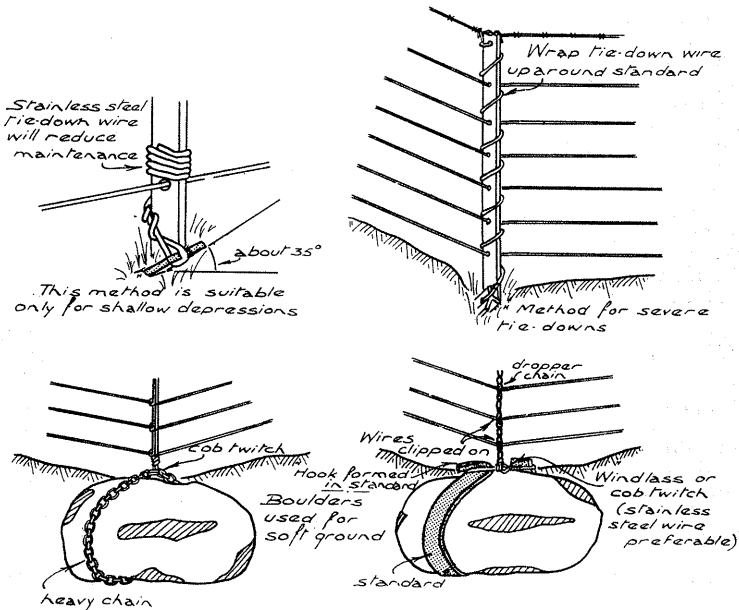

Fig.3 TIE - DOWNS
**Tie-downs.** (See Fig. 3.) If the strainer posts are saved, a fence stands or falls on the quality of its tie-downs. Money saved here can be money wasted. Thought must be given to the extra strain placed
The tie-down standard should be driven well home and tied to the fence standard with stainless-steel wire (3d per foot). If galvanised wire be used instead, the joint must be left exposed with a reduction in tie-down strength. If the lift is only a slight one, the free end of the tie-down wire can be wrapped around the fence standard above the bottom wire. The criterion is whether or not the tie-down is likely to jam the running of the bottom wire. Every effort must be made to see that it does not. If the lift is severe, the tie-down wire should be wrapped around the fence standard (one wrap between each running wire) right up to the top and tied off through the barb hole. (See Fig. 3.) The wrapping gives rigidity to the standard and all running wires are free. Standard plates are now wedged in place or rocks placed under the bottom wire against standards wherever sinking of the standard is possible.